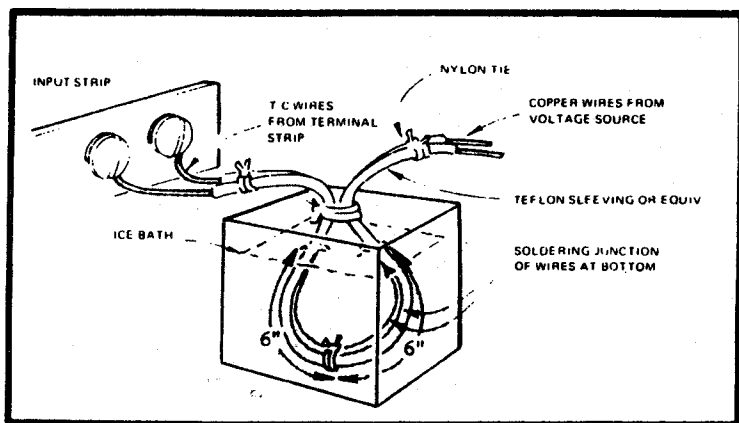
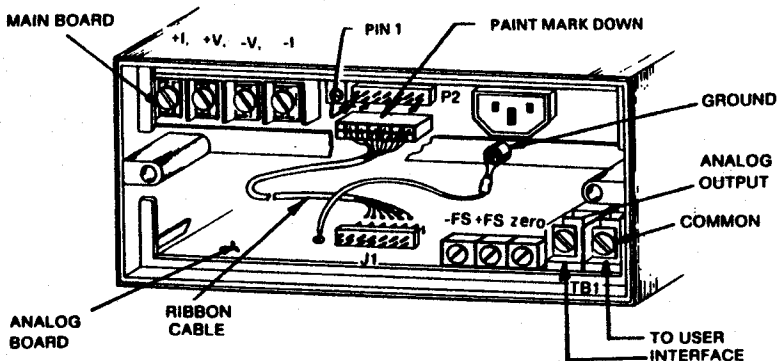

FIGURE 4-2. PREPARING WIRES FOR ICE BATH
FIGURE 4-4. REAR VIEW, OPTION 005A CALIBRATION POTS
- b. Connect the DC calibrator and ice bath to the instrument as shown in the set-up diagram in Figure 4-2.
The Analog Output board is provided with three pots for calibration. See Figure 4-4. Use the calibration set-up shown in Figure 4-2 to calibrate the Analog Output board. Connect a known source to the indicator from which the Analog Output board is converting. Connect a DVM with 100 μ V resolution to the output terminals of the Analog Output board. Adjust R18 (zero), R14 (+ full scale), and R13 (-full scale) with the appropriate input in that order until the millivolt output agrees with the indicator display in the following fashion: